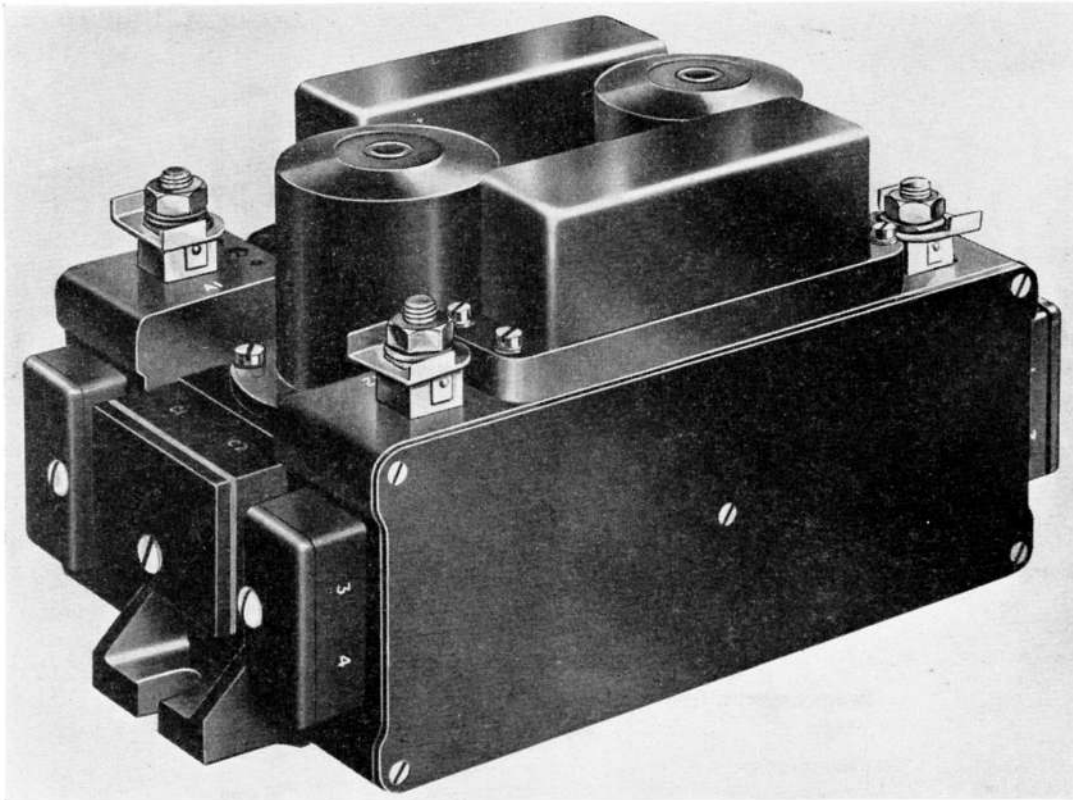
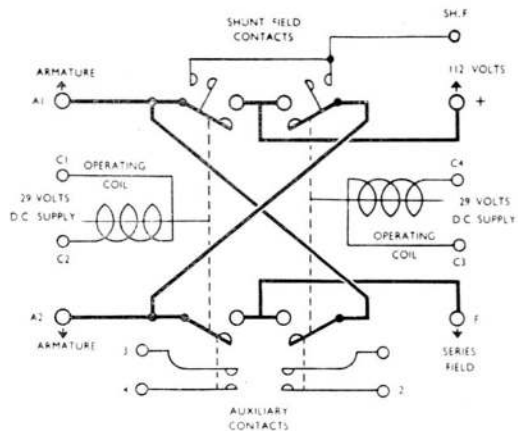

Fig. 1. General view of Type 7A switch
Fig. 2. Internal connections
2. The Type 7A, No. 1 switch (*fig. 1*) is identical to that described in A.P.4343, Vol. 1, Sect. 11, Chap. 13. Its auxiliary contacts (terminals 1, 2, 3 and 4) are normally open, as shown in *fig. 2*.